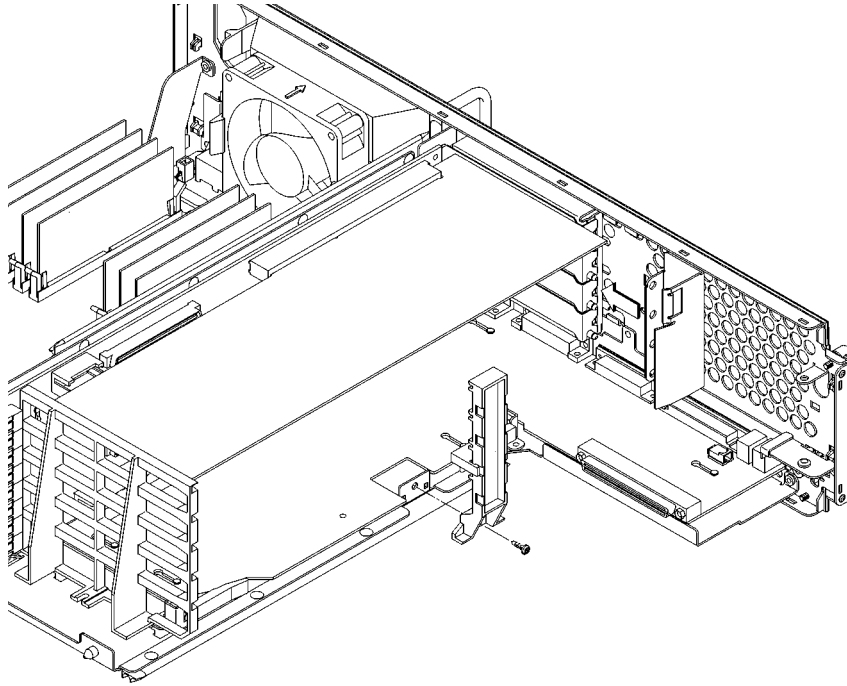

**Figure 43**                      **Installing an Option Board**
- 7 Slide the board into the slot. Make sure that the hole in the board's handle aligns with the pin on the back panel, as shown in Figure 43.